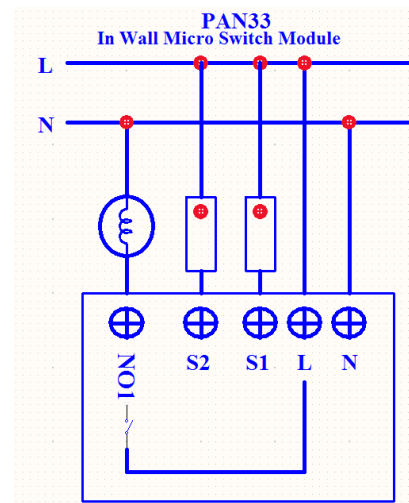

Fig 1. Assembling
2. Connect the wall switch to the PAN33 as Fig1 .